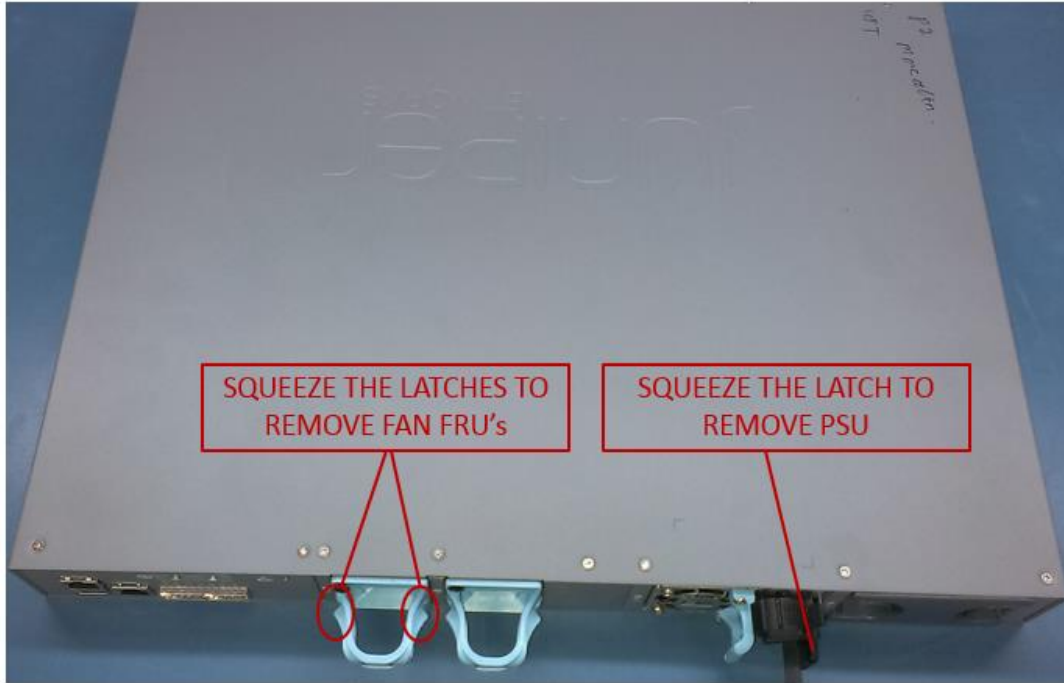

Figure 3-1: FAN FRU'S + PSU
1. Remove the power supplies from the system. If there are no power supplies, remove the power supply Blanks. Fan FRU need not be removed. (Figure 3-1)